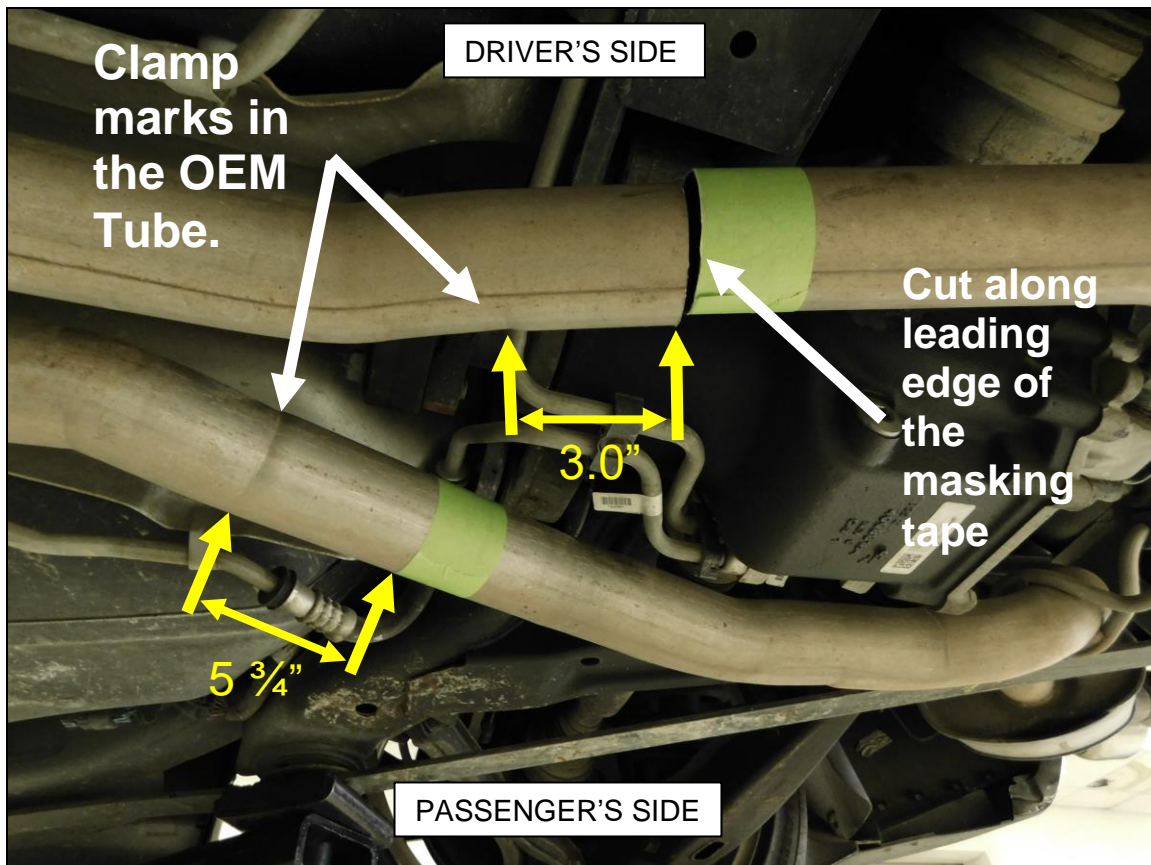

Figure 1
4. Remove the OEM muffler assembly by cutting the inlet pipe at the location detailed in **Figure 1**.
- A. Measure from the clamp mark on the OEM exhaust pipe at the location shown in **Figure 1** and make a reference mark with a marker.
- B. Wrap the tube with the leading edge of the masking tape at the location marked. This will serve as a guide when cutting the tube to keep a straight cut (**Figure 1**).